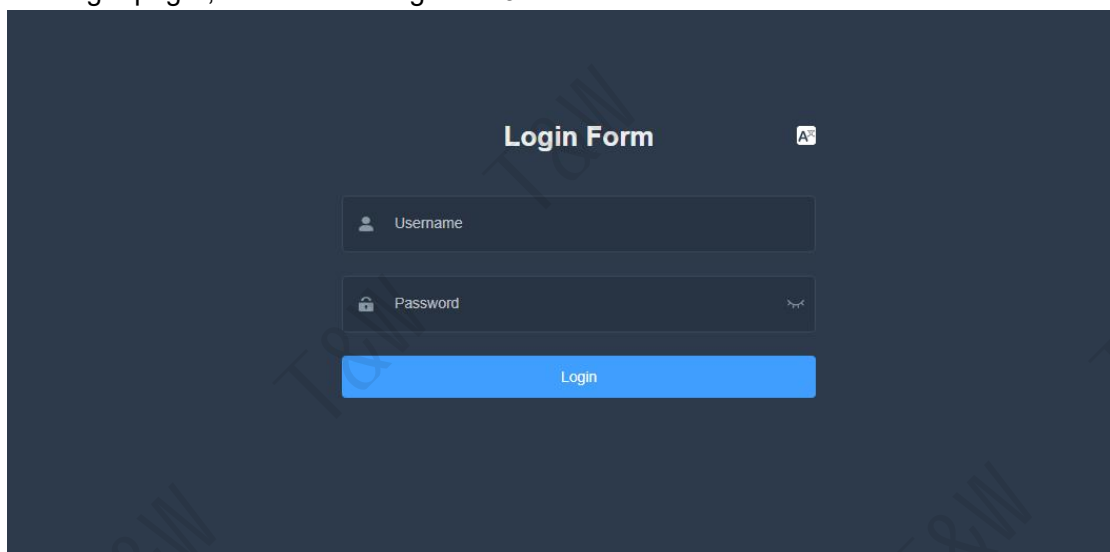

Figure 1-3 Logging in to the web page of the base station
1. Enter https://192.168.200.200 in the address bar of the browser , (the http method can open the web but cannot log in) , click "login" to open the web client login page , as shown in Figure 1-3 .